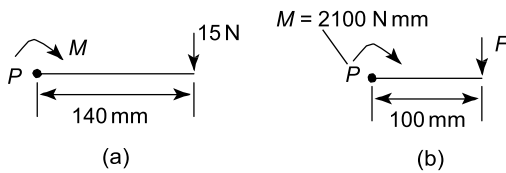

Figure 6.2
From above, $M = F \times d$, where M is the turning moment, F is the force applied at right angles to the spanner and d is the effective length between the force and the centre of the nut. Thus, with reference to Figure 6.2(a):
- (b) Turning moment, M is 2100 N mm and the effective length d becomes 100 mm (see Figure 6.2(b)). Applying $M = F \times d$ gives: